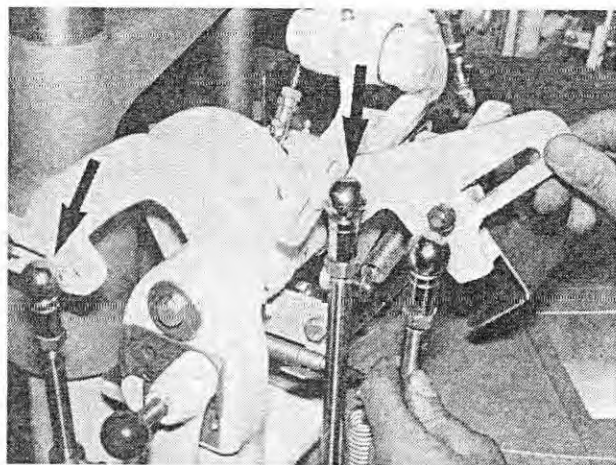

Fig. 146
11. Unhook the ball-type heads (Figure 146/arrows) on the levers of the folding head.